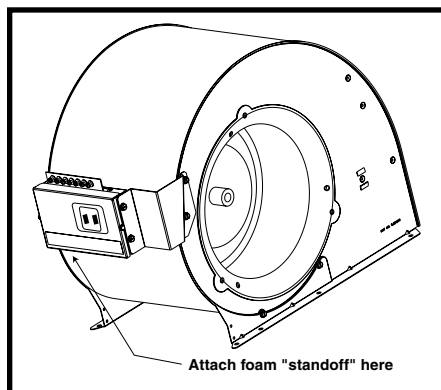

Figure 2b. E2E(-) (Pre-1999 manufacture)
- (E1 & E2 furnace models manufactured prior to 1999 only): Attach the foam "standoff" to the bottom corner on the back side of the relay box opposite the side where the bracket is attached (See Figure 2b). This standoff will